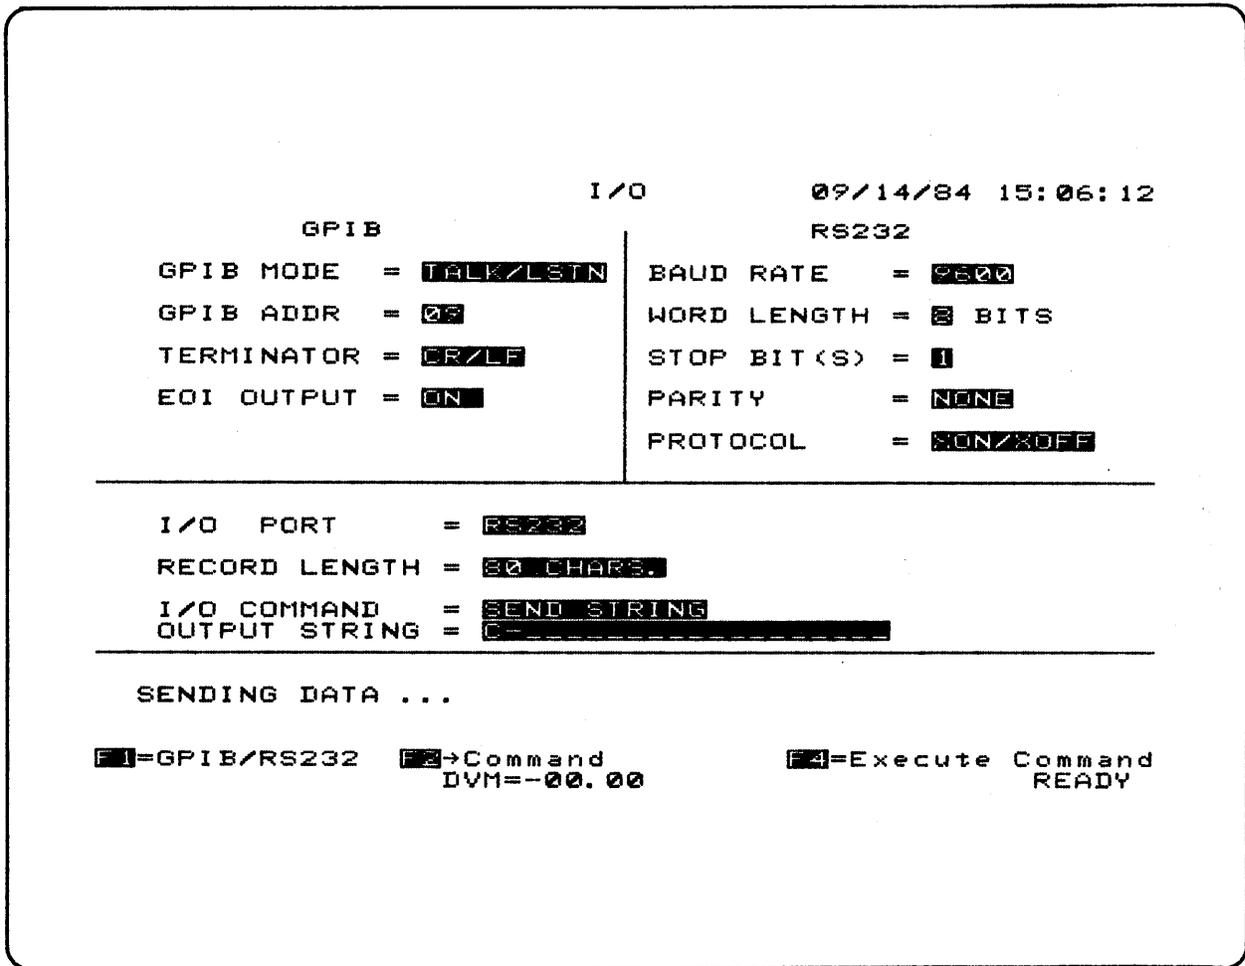

Figure 5-2. I/O Setup Screen
The I/O Setup Screen (Figure 5-2) allows the user to select and view parameters used for the communications port. This screen is accessed by depressing the I/O key and the numeric key 2.